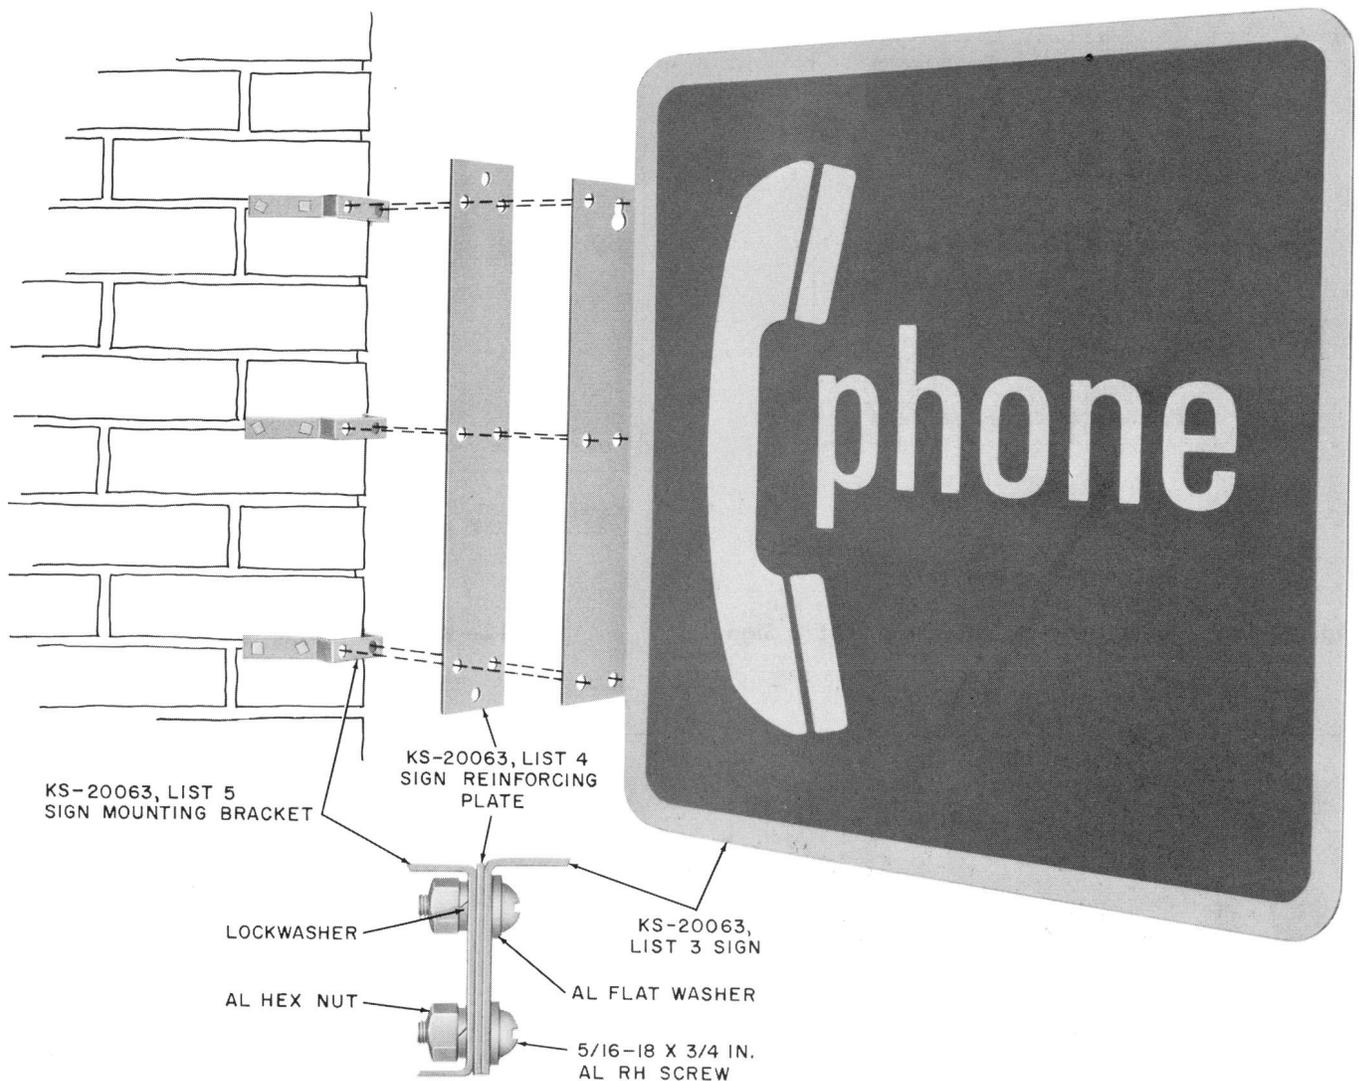

Fig. 9—KS-20063, List 3 Sign—Corner Mounted
- (b) KS-20063, List 5 sign mounting bracket (Fig. 9)
- (c) A corner (Fig. 9)